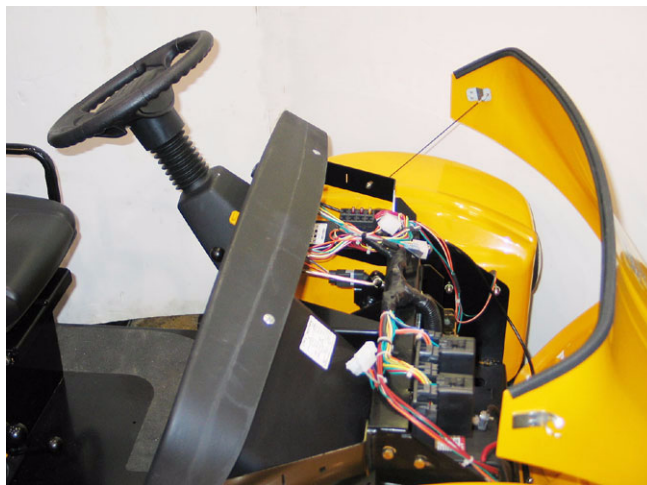

Figure 2.2
- 2.2. To gain access to the front of the brake linkage: See Figure 2.2.